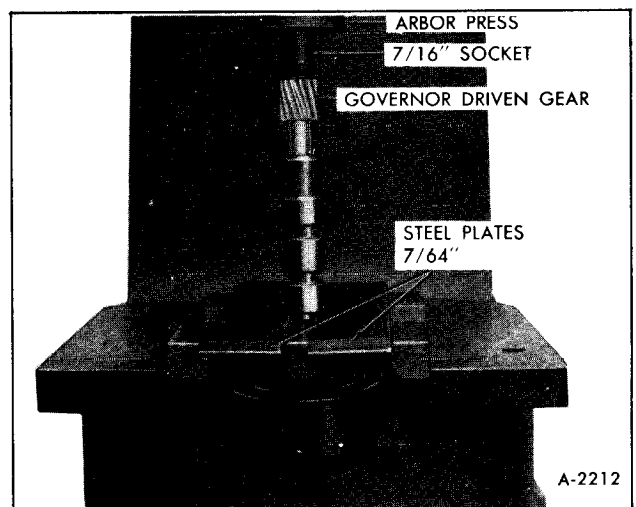

Figure 95—Installing Governor Gear
5. Support governor on 7/64" plates, installed in exhaust slots of sleeve, position new gear in sleeve and with a 7/16" socket, press gear into sleeve until seated. See Figure 95.